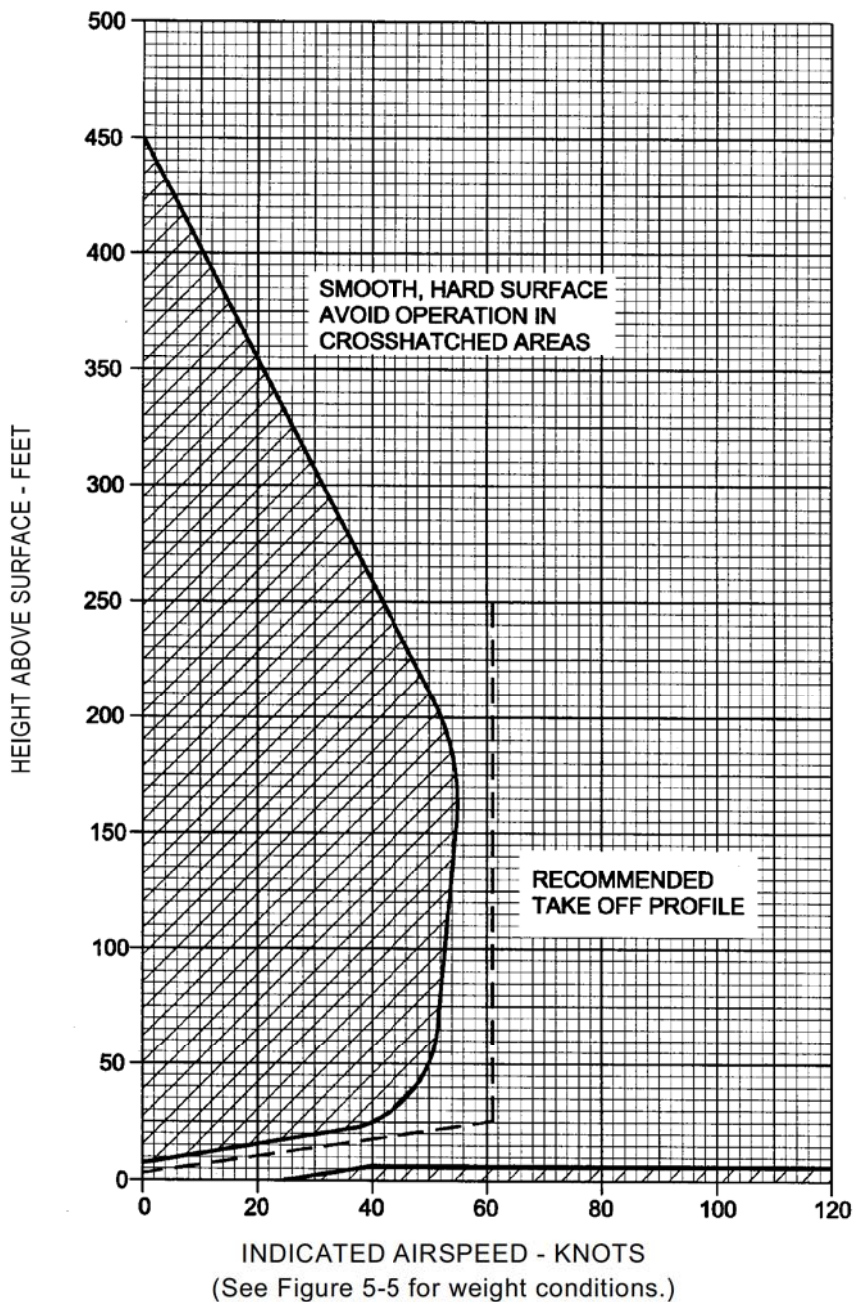

Figure 5-4. Height Velocity Diagram at Sea Level
- Takeoff operation should be conducted in accordance with the Height Velocity Diagram (Fig. 5-4).
WHEN HOVERING AT ALTITUDES WITHIN OR ABOVE THE CROSS-HATCHED AREAS DEPICTED ON THE HEIGHT VELOCITY DIAGRAM (FIG. 5-4), IT IS NECESSARY TO REDUCE ALTITUDE TO 7 FEET OR LESS PRIOR TO PLACING THE TWISTGRIP IN THE GROUND IDLE POSITION AND PERFORMING A HOVERING AUTOROTATION.